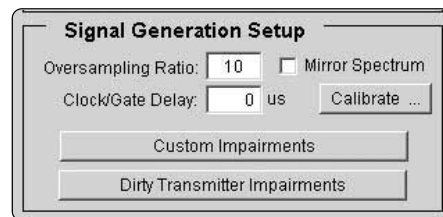

Figure 44. Signal Generation Setup menu.
4. Use the calibrate utility to determine the signal propagation delay through the ESA. Select the **Calibrate** button in Figure 44. The calculated waveform is automatically downloaded to the ESG and the calibration utility is initiated.